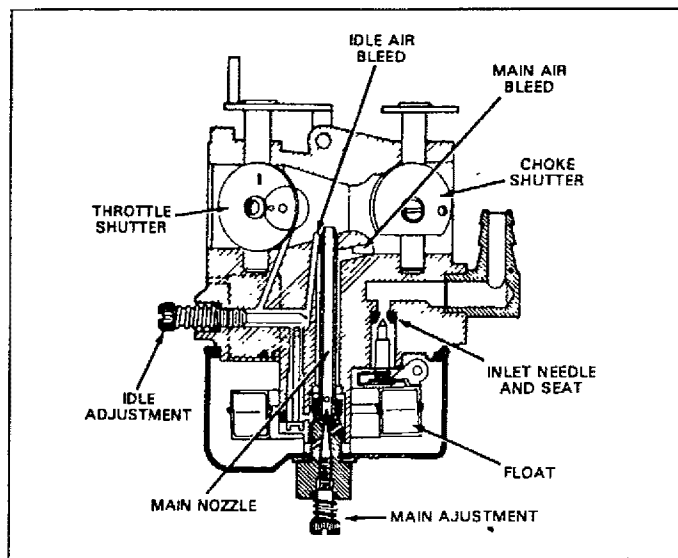

FIG. 14
- Gently turn IDLE VALVE and NEEDLE VALVE (Fig. 14) clockwise until they just close. Valves may be damaged by turning them in too far.